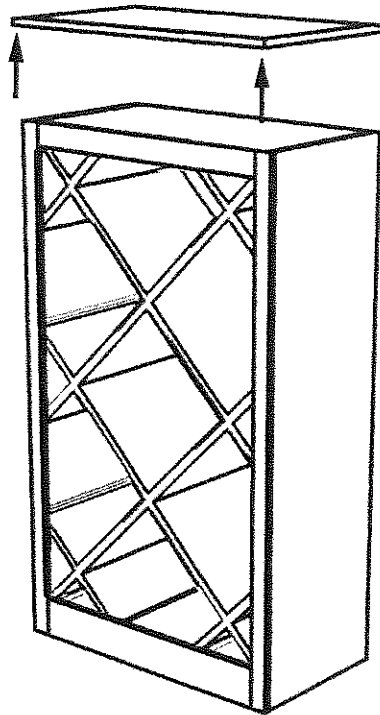

Figure 7
5. Locate the panels marked F1, F2, F3, and F4. Again, using the cleats as your guide, align the bottom of the panels with the left side cleats. Insert panel F1 in the upper left hand corner, fitting the slot in the center of the panel over the top of the slot in panel B1. After you have inserted panel F1, work your way down by inserting panels F2 and F3. Finish by inserting panel F4 in the lower right hand corner (**Figure 7**). (*Be sure to carefully align the edges of the inside panels so that they are flush with both the front and back edges of the side, top and bottom panels. You may need to use a soft-faced hammer or mallet to ensure a proper fit over the back panels.)
11. **To attach a tabletop:** Position the tabletop so it is flush with the sides, front and back of the diamond bin. Using the washer head screws provided, attach the tabletop by drilling through the under side of the bin's top panel to secure the tabletop (**Figure 7**).